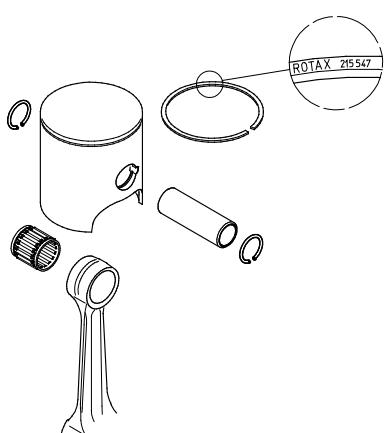

Fig. 32 (K00028, K00336)
- Place the installation tool with the cutout of the circlip down on the piston (1).
- Counter the piston with your hand and press the circlip into it. See Fig. 32.